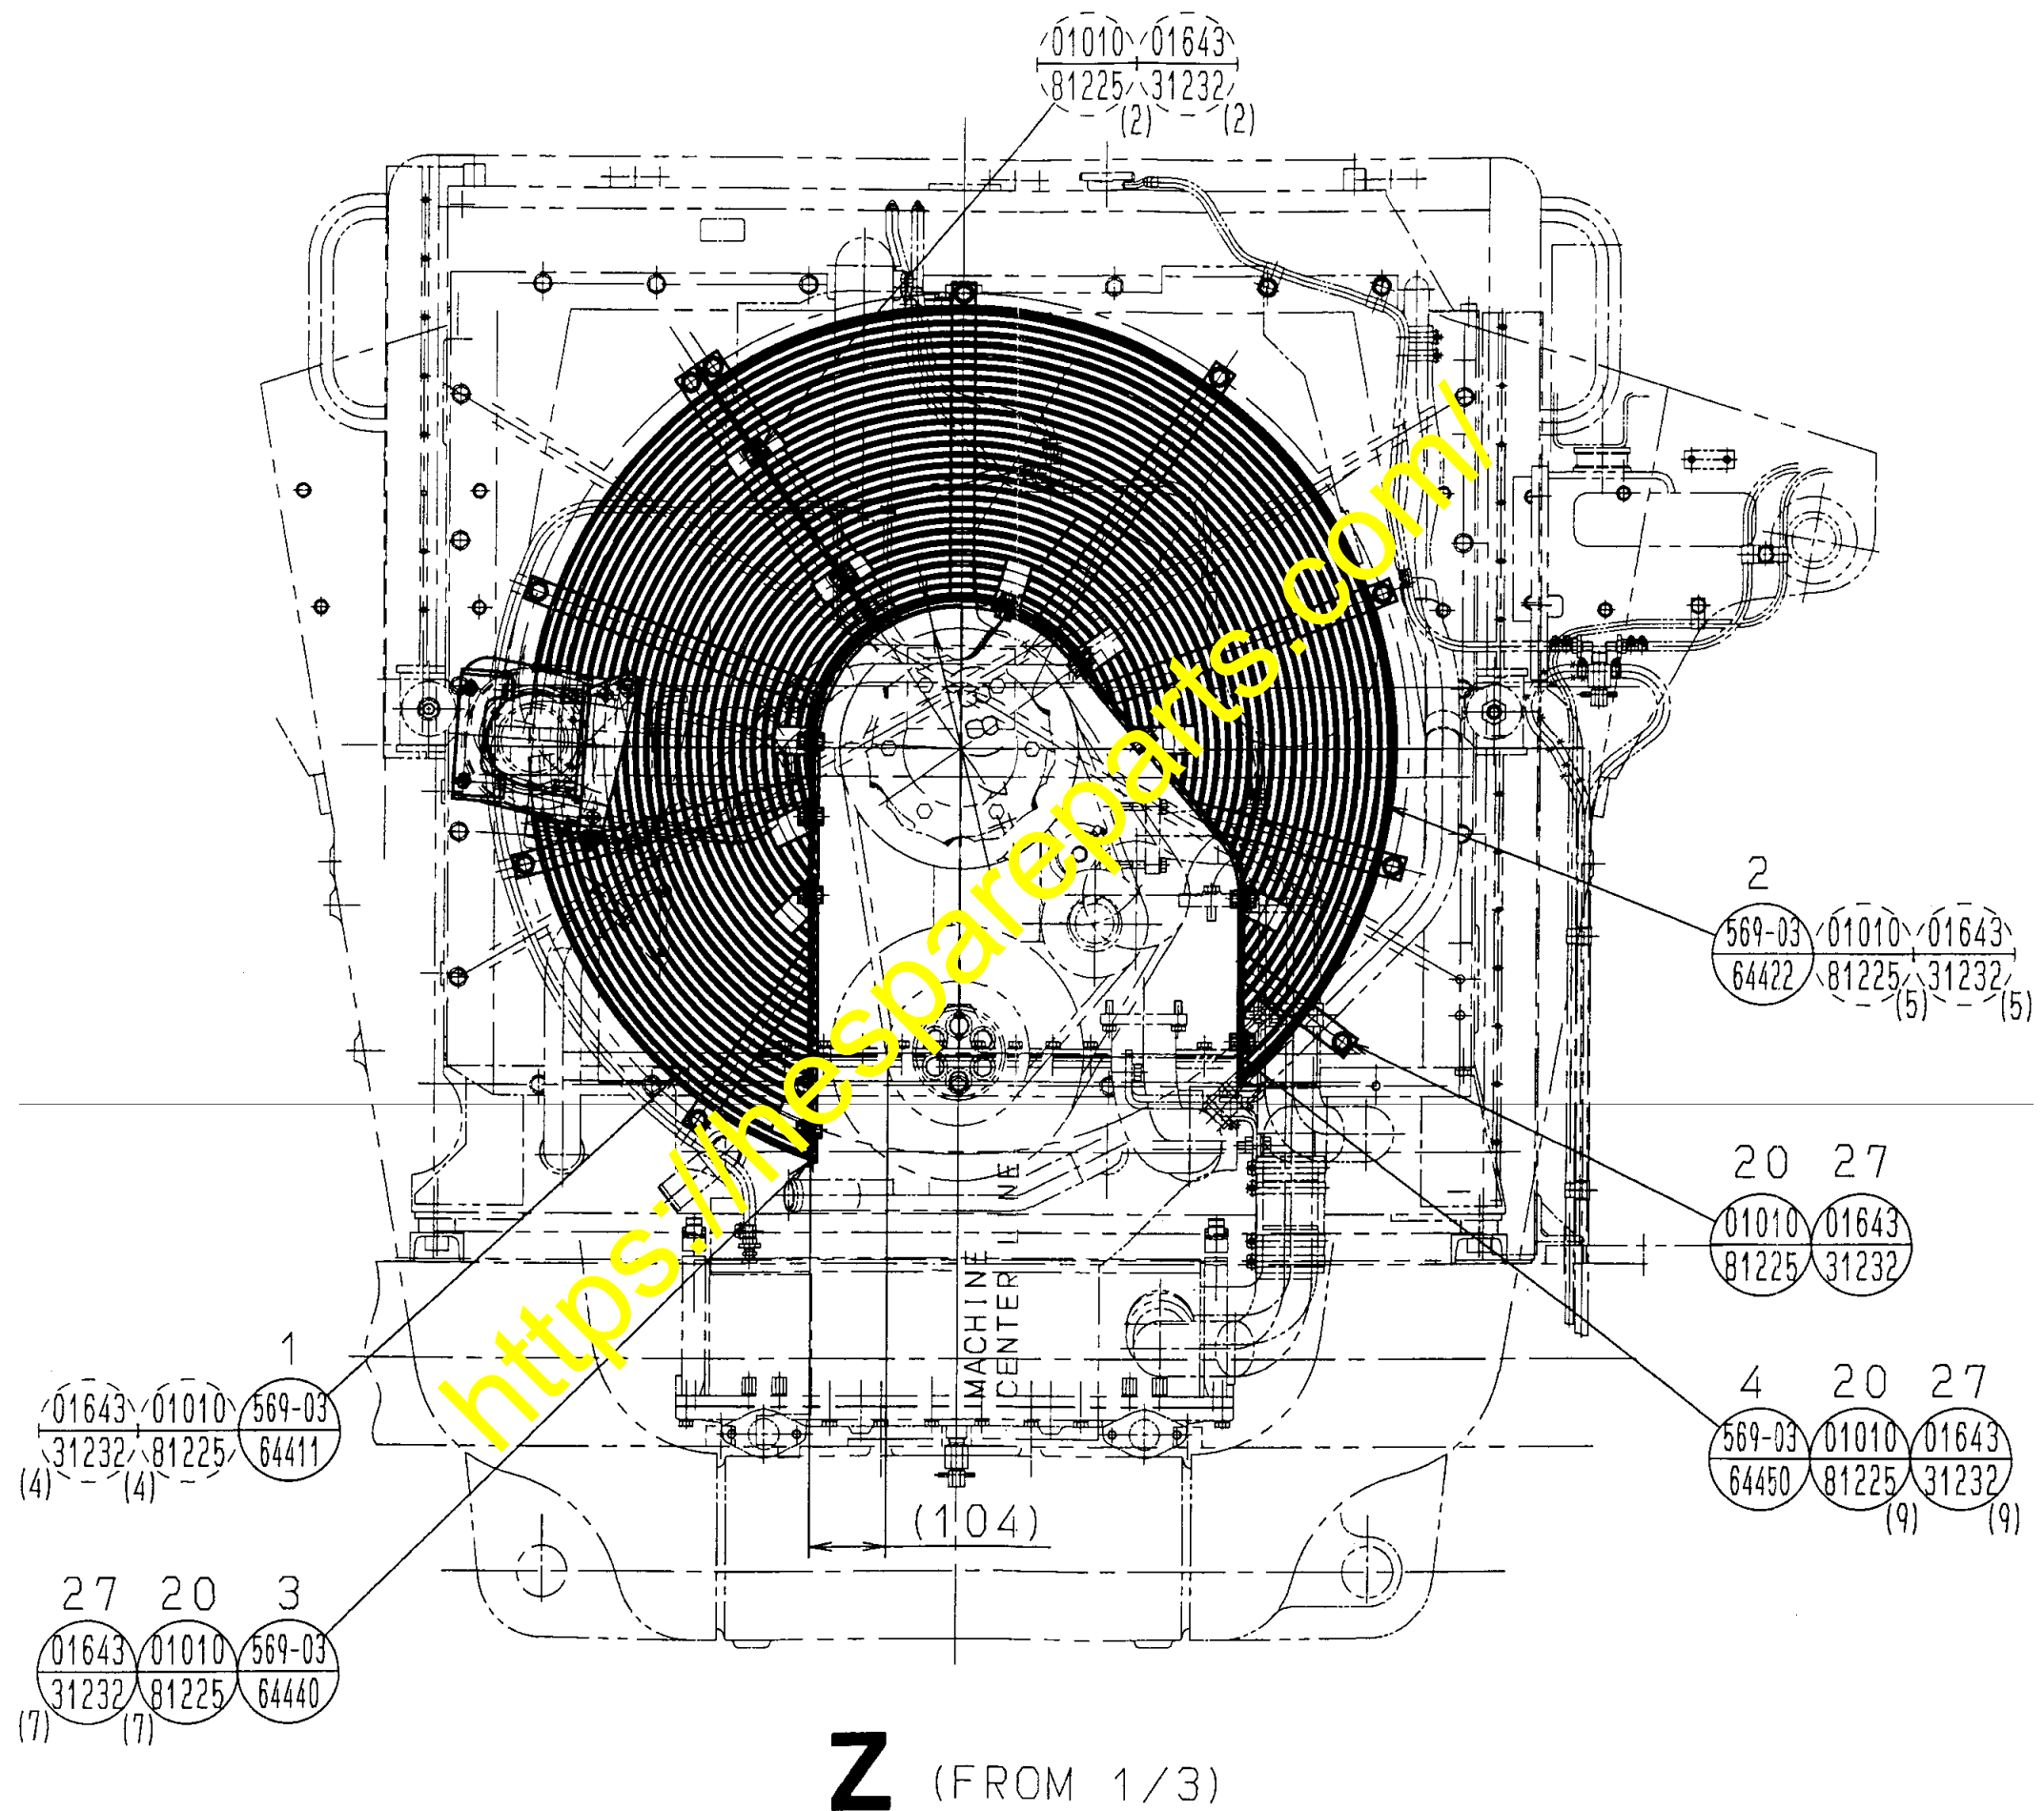

Fig. 6 Installing the fan belt cover and the air conditioner compressor cover (2/3)
(2) Replace the fan guard net halves 1 and 2 with the newly prepared fan guard net halves by installing the newly prepared fan guard net halves to the reworked shroud. (Refer to Fig. 6.)
(3) Install the cover 3 (569-03-64440) and cover 4 (569-03-64450) to the shroud using the bolts 20 and washers 27. (Refer to Fig. 6.)